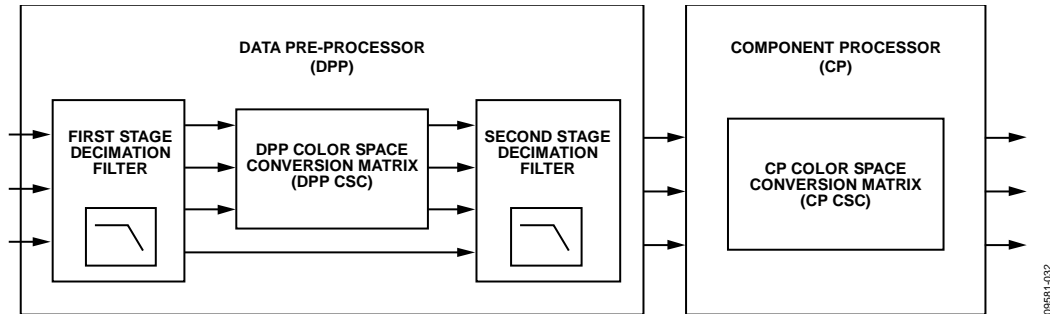

Figure 32. DPP/CP CSC Block Diagram
The ADV7619 provides any-to-any color space support. It supports formats such as RGB, YUV, YCbCr and many other color spaces. Data Preprocessor and Component Processor are designed to run at speeds of up to 170 MHz. Therefore HDMI video with pixel clock frequencies above 170 MHz must be routed directly to Video Output Formatter bypassing Data Preprocessor (DPP) and Component Preprocessor (CP). For more information about bypassing DPP and CP please refer to Pass Through Mode section. The ADV7619 features a 3×3 CSC in the CP block (CP CSC), as shown in Figure 32. The CP CSC also provides color controls for brightness, contrast, saturation and hue adjustments. The DPP block features an automatic CSC. The ADV7619 automatically configures the DPP CSC depending on the input and output formats and the use of the color control feature.